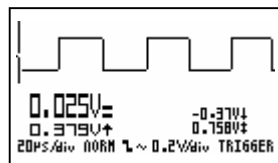

Fig 53
- 'norm' = normal triggering (fig 53)
- '*norm*' = normale triggering (fig 53)
- '*norm*' = synchronisation normale (fig 53)
- '*norm*' = normale Auslösung (fig 53)